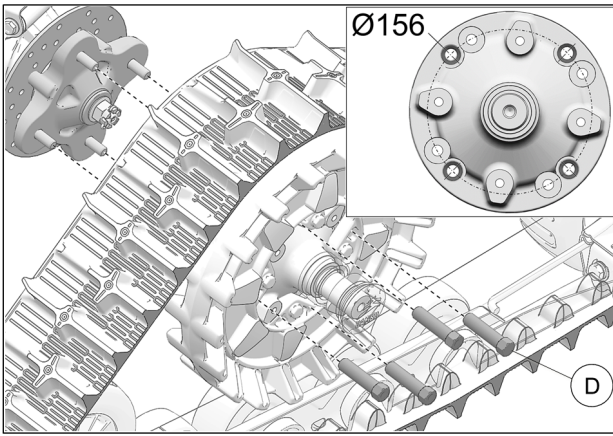

Fig. 18
7. Secure undercarriage to front hub using the provided M12 lug nuts (D). Use bolt circle Ø156mm. Fig. 18